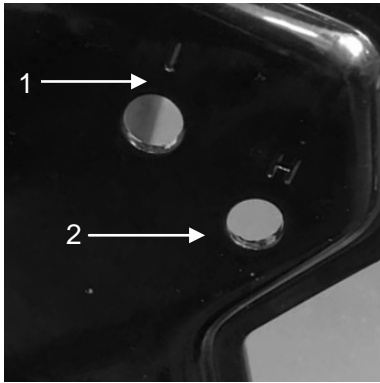

Fig.3A
1. Loosen the locking knobs which fix the lower handle in place. (Fig.3A)